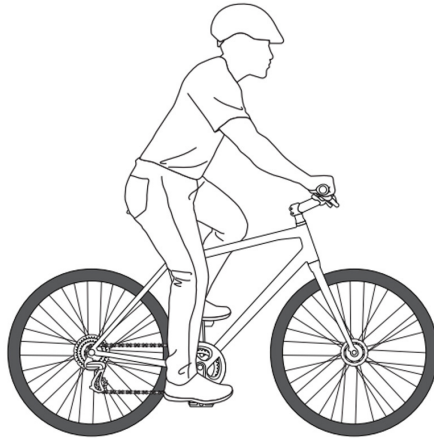

figure 3
1. Saddle Height (Up–Down Adjustment) To verify correct saddle height (see figure 3):